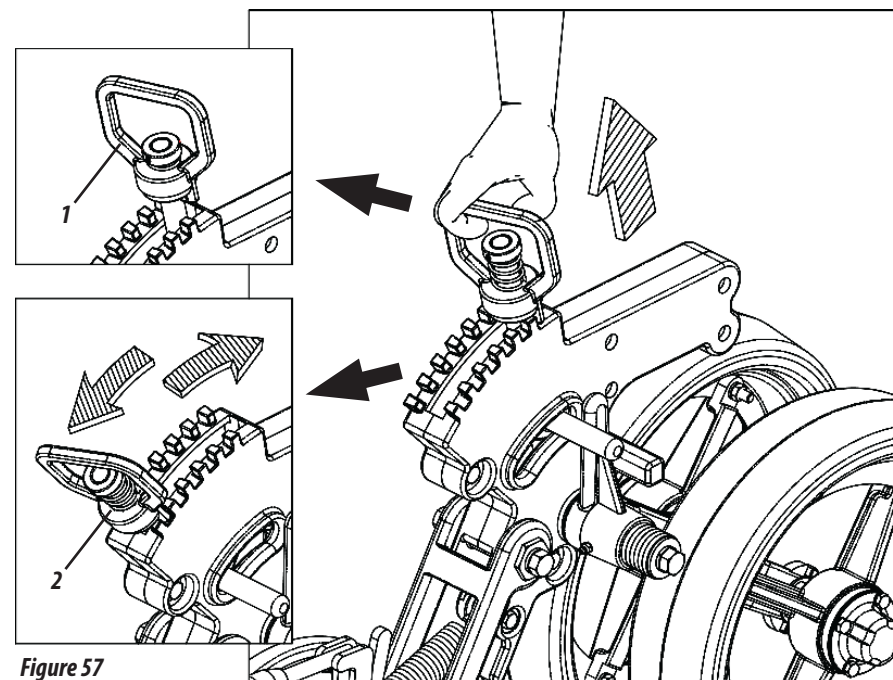

Figure 57
15 - Pull the handle (1) up, move the regulator (2) to the desired position by adjusting the depth wheel (3), then lower the handle (1) locking the regulator (2) as shown in Figure 57.